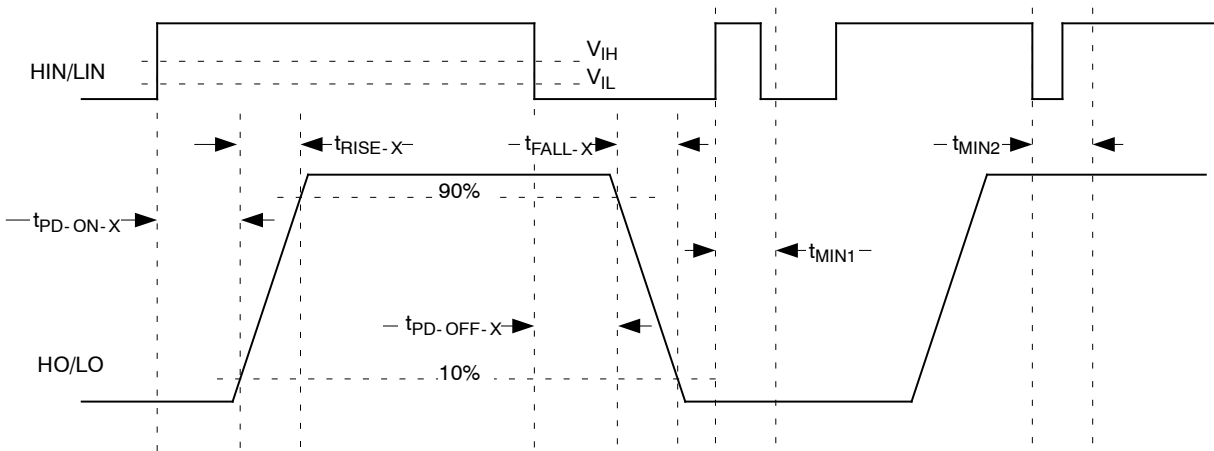

Figure 3. Propagation Delay, Rise and Fall Time
| Rise Time (HO) (see Figure 3)   | $C_{LOAD} = 1\text{ nF}$ ,10% to 90% of Output Change  | $t_{RISE-H}$            |     | 13   |     | ns   |
| Fall Time (HO) (see Figure 3)   | $C_{LOAD} = 1\text{ nF}$ ,90% to 10% of Output Change  | $t_{FALL-H}$            |     | 8    |     | ns   |
| Rise Time (LO) (see Figure 3)   | $C_{LOAD} = 1\text{ nF}$ ,10% to 90% of Output Change  | $t_{RISE-L}$            |     | 13   |     | ns   |
| Fall Time (LO) (see Figure 3)   | $C_{LOAD} = 1\text{ nF}$ ,90% to 10% of Output Change  | $t_{FALL-L}$            |     | 8    |     | ns   |
| Minimum Pulse Width Filtering Time(see Figure 3)                  | $T_A = 25^\circ\text{C}$   | $t_{MIN1}$ , $t_{MIN2}$ | 10  |      | 40  | ns   |